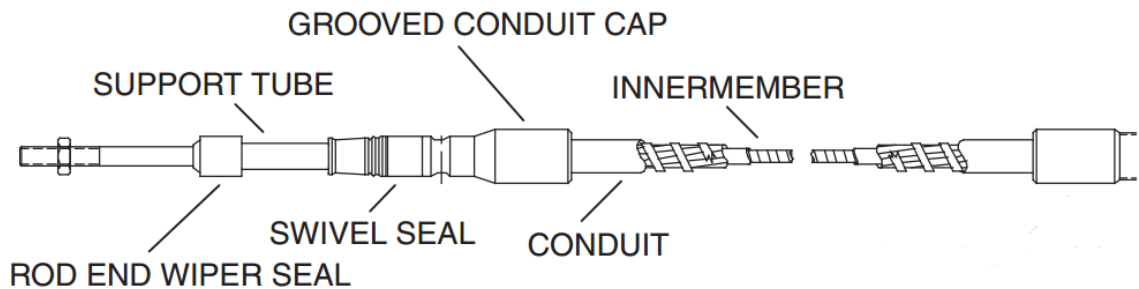

Figure 1 – Elevator cable layout
- Jabiru elevator cables are a Teleflex “push-pull” design with a guide tube attached to prevent buckling of the cable under compression. The support tube end is flared and fits into the grooved conduit cap which has a bowed-in mouth to form a ball-and-socket type attachment with small amounts of free play. Refer to Figure 1 for correct terminology.